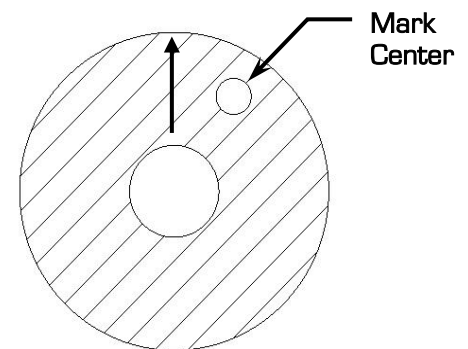

Figure 11b - Switch Mounting Template
17. Cut the template out (Figure 11b) and place it over existing wiper switch hole in the dash. Make sure arrow is pointed up. [12 o'clock position]